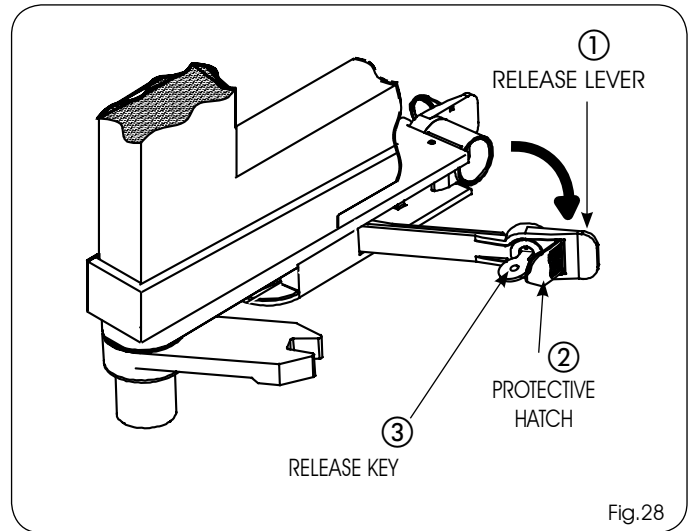

Fig.28
- 1) Open the protective hatch (Fig.28 ref. ②).
- 2) Insert the release key in the lock (Fig.28 ref. ③) and turn it clockwise sense up to its stop point.
- 3) Pull the release lever toward you (Fig.28 ref. ①).
- 2) Insert the release key in the lock (Fig.28 ref.③), turn it in the opposite direction up to the stop point and remove it.